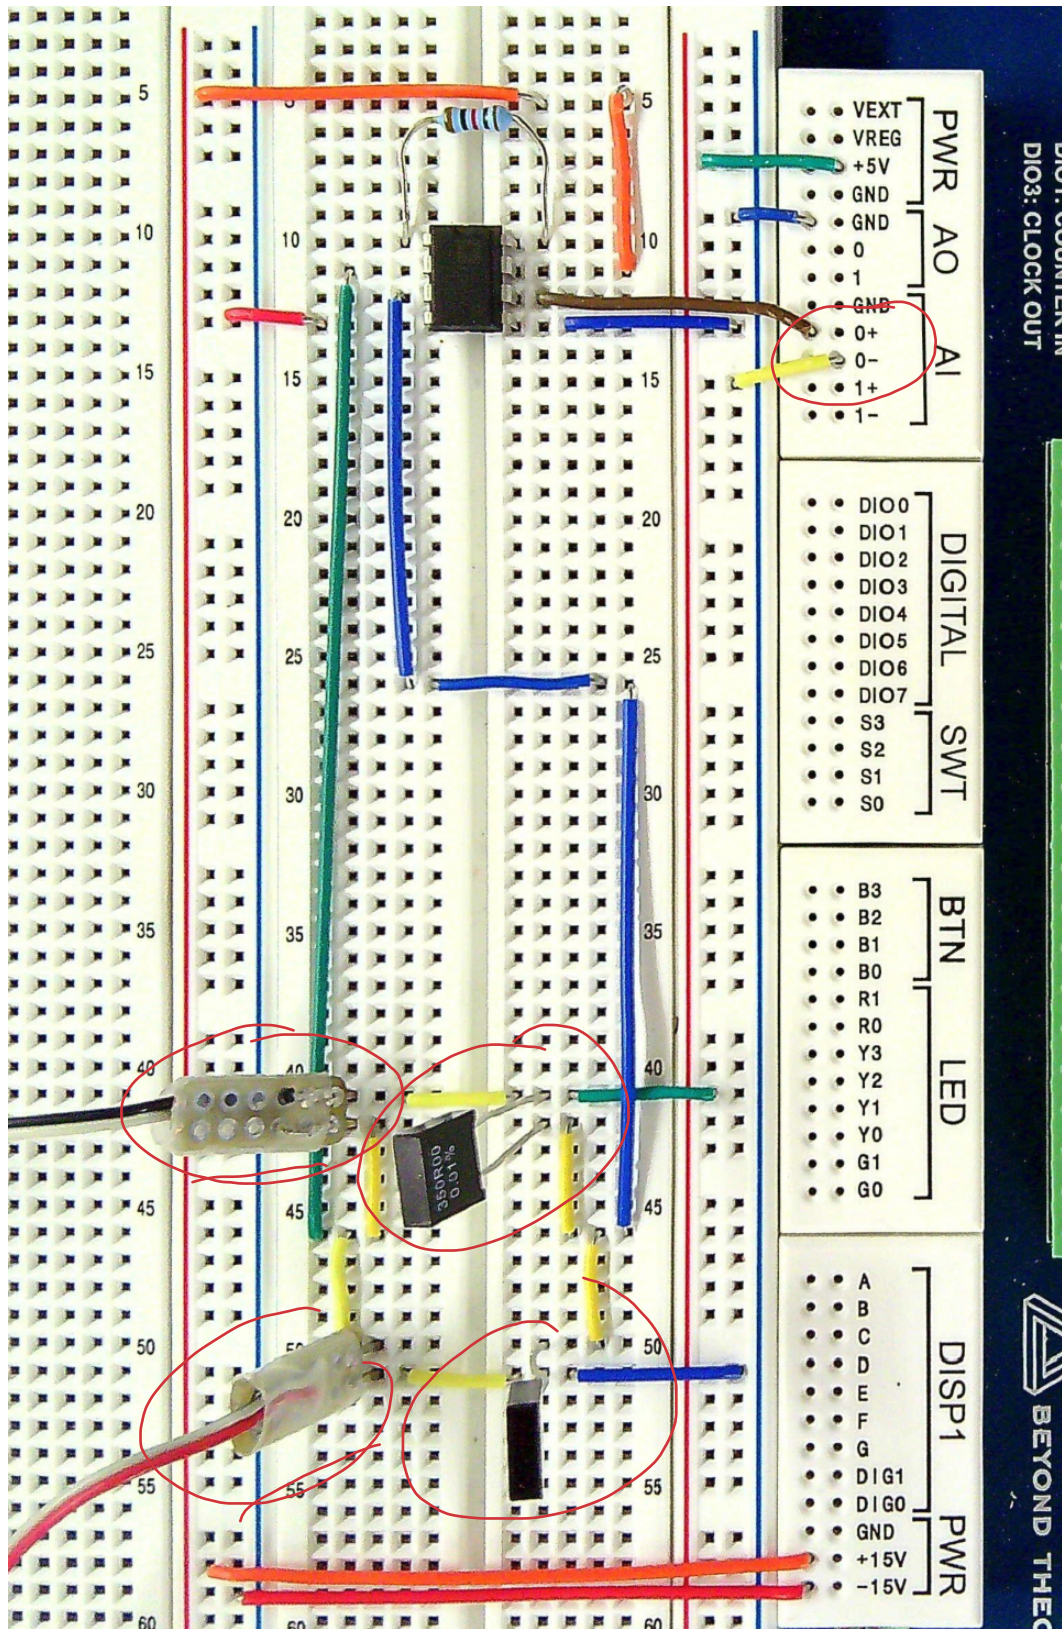

Figure 2: Two strain gauges mounted on a cantilevered beam and a half arm Wheatstone bridge circuit.
- On a breadboard, build a half arm Wheatstone bridge circuit as shown in Figure 2. Use the two strain gauges mounted to the cantilevered beam as resistors R#1 and R#2. Use matching precision resistors (120Ω or 350Ω) for R.
- Make sure to connect the excitation ground to the REF pin on the instrumentation amplifier (2).
- Provide the amplifier and the bridge with a 5V excitation voltage from Ni MyDAQ (2). Use the table-top DMM to measure the amplified output voltage, $V_o \times G$, from the instrumentation amplifier to check that your experimental setup is working properly.